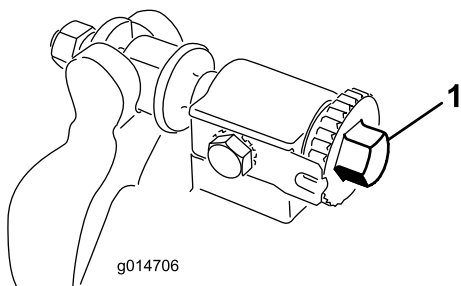

Figure 10
1. Position the machine on a flat, level work surface. Make sure reel contact is removed by turning the bedbar adjusting screws counterclockwise (Figure 10).